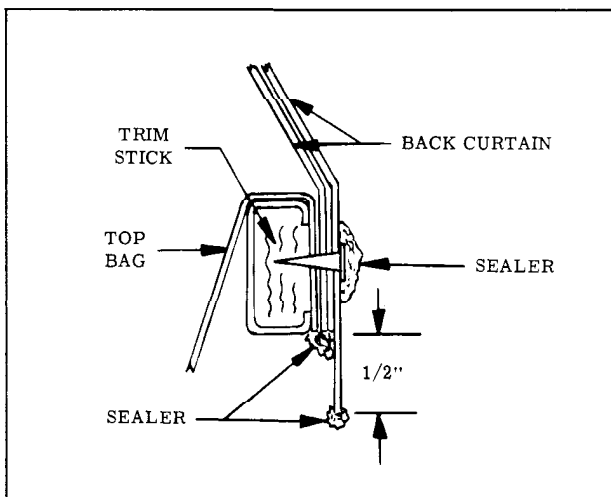

Fig. 17-144 Sealing at Trim Stick
NOTE: New back curtain and top material should extend 1/2" below lower edge of trim sticks. (Fig. 17-144)
40. Remove trim sticks with attached top material from top compartment well. Back curtain and top material should extend 1/2" below trim sticks. (Fig. 17-144) Trim material as required. Apply convertible top sealer onto all